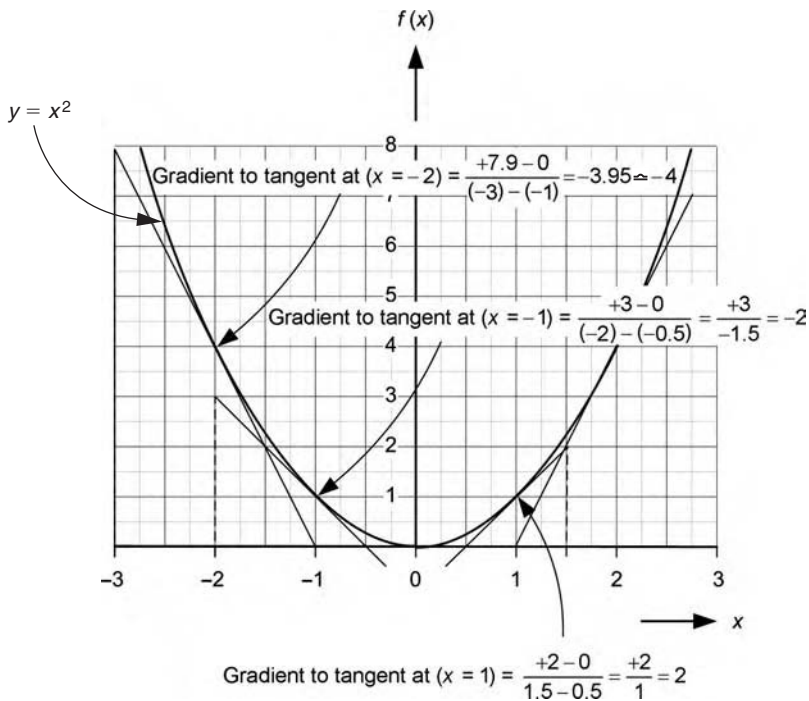

Figure 3.29 Finding the gradient of a curve at a point, for the graph $y = x^2$.
We could continue this process by taking smaller and smaller time periods so that eventually we would be able to find the *gradient or slope of a point* on the graph, In other words, we could find the *gradient at an instant in time*. Now you know from your study of the circle (page 93) that a *tangent line touches a circle (or curve) at just one point*. Therefore finding the *gradient of the slope of a curve at a point is equivalent to finding the gradient of a tangent line at that same point* (Figure 3.29).
1. The graph of the function $f(x) = x^2$ is shown in Figure 3.29. It can be seen that it is symmetrical about zero and is parabolic in shape.